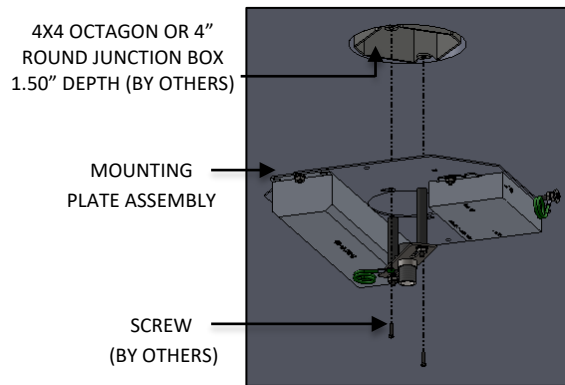

FIG. 8 – MOUNTING PLATE ASSEMBLY INSTALLATION
3. Attach MOUNTING PLATE to JUNCTION BOX (by other) as shown below in FIG. 8.